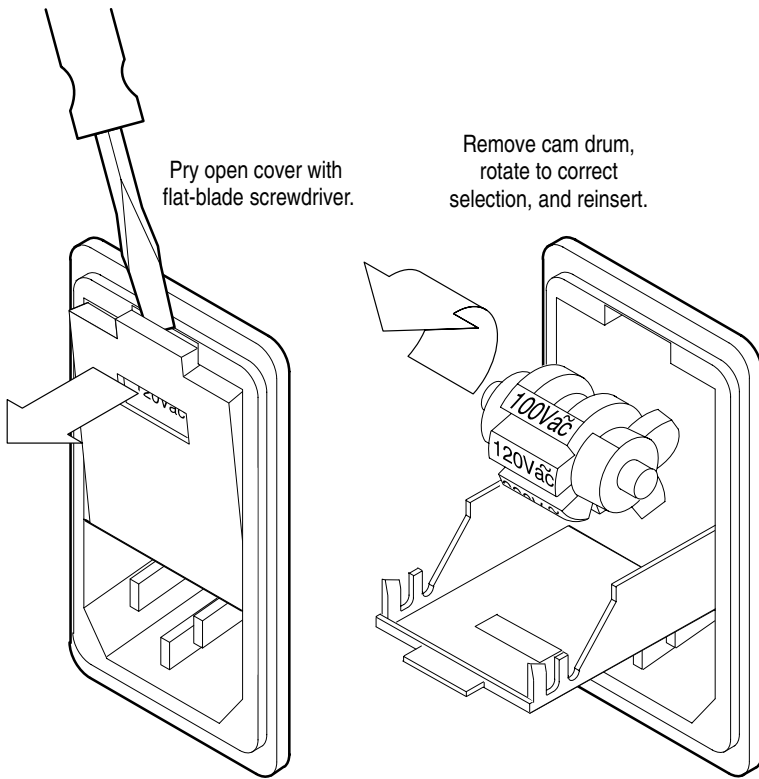

Figure 1: Changing the Line Voltage Setting
1. Check the line voltage setting on the rear panel. If the line voltage setting does not match the line voltage of your area, change the line voltage setting as shown in Figure 1.